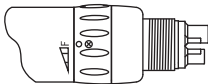

Fig.4
- (1) Forward Rotation : Turn the FWD/REV Change Ring to“F”as shown in Fig.4.